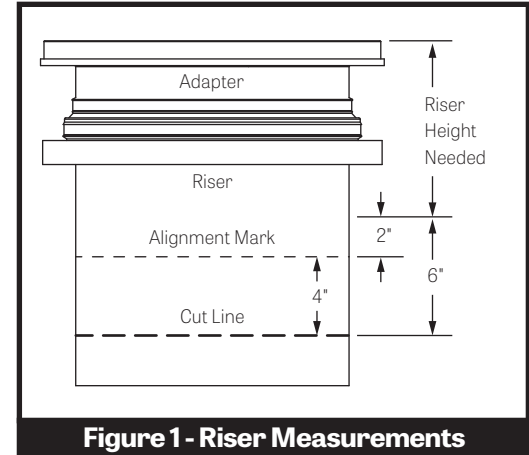
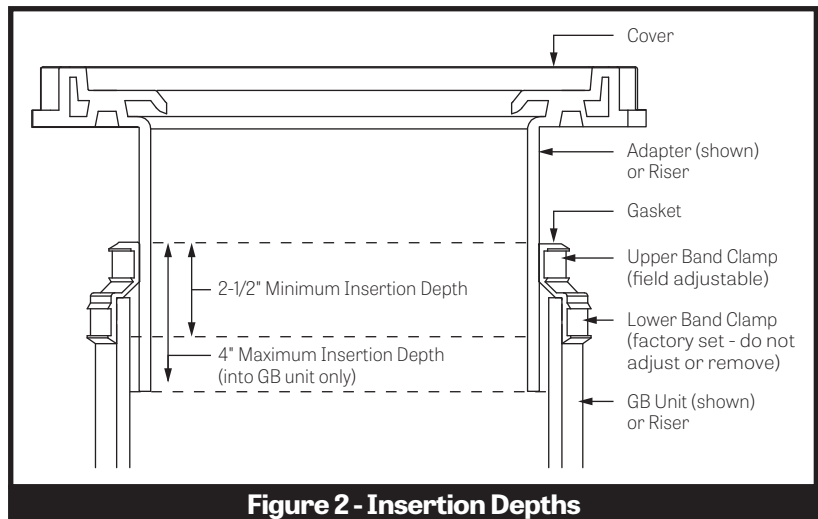

Figure 1 - Riser Measurements
Figure 2 - Insertion Depths
2. Remove covers from adapters. Remove adapters from main unit. On a level surface, pre-assemble the risers and adapters, adjusting the components upwards or downwards to achieve the riser height needed. Make sure to maintain minimum and maximum insertion depths as shown in Figure 2. If components are too long, make a circular line around the sidewall with marker and cut with a power saw. The lowest cut line on the riser assembly will be 6" beyond the riser height needed to allow for ideal insertion depth (See Figure 1). An alignment mark should be drawn 2" beyond the riser height needed which will align with the top of the base unit gasket. **DO NOT** cut the alignment mark. The Adapters and risers should sit level with each other. Tighten upper clamps to keep riser/adaptor assembly from shifting. Make alignment marks on the sidewalls at the top of all riser gaskets to aid final assembly.
4. Take apart riser assembly and clean all sidewalls and insides of gaskets to remove dust/debris. Install components into the main unit starting from the lowest riser and work your way up to finished grade. Maintain minimum and maximum insertion depths for all components (see Figure 2). Tighten Upper Clamps to specified torque after correctly positioning components. Riser assembly may need to be supported during backfill.
6. If riser height conditions change after completing above steps, there may be room for adjustment. As long as minimum and maximum insertion depths are maintained (see Figure 2), the adapters/risers can be adjusted/cut as many times as necessary. When riser system installation is complete, see Leak/Seal Testing procedure if required (pg 3 of 4).